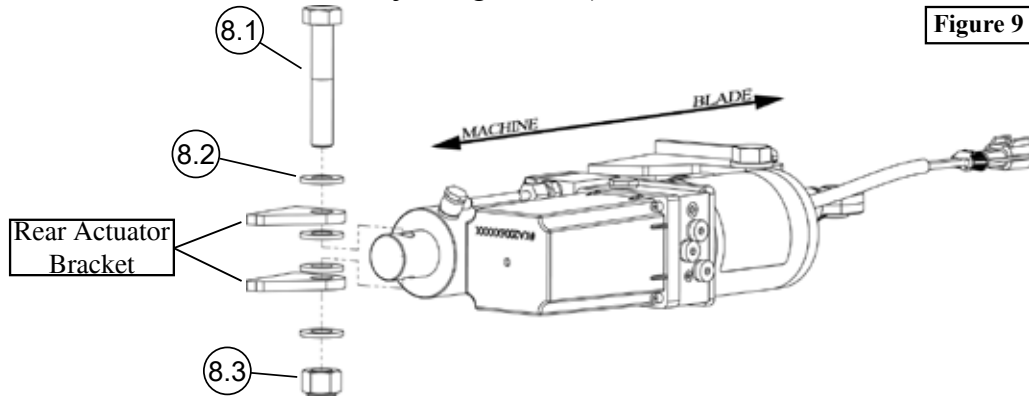

Figure 9
- Place bolt (8.1) through flat washer (8.2), top tab of rear actuator bracket, flat washer (8.2), Hydraulic Actuator (7), flat washer (8.2), bottom tab of rear actuator bracket, and flat washer (8.2). Place nylock nut (8.3) onto bolt (8.1) as shown in **Figure 9**. (This orientation of hardware is just a guideline)